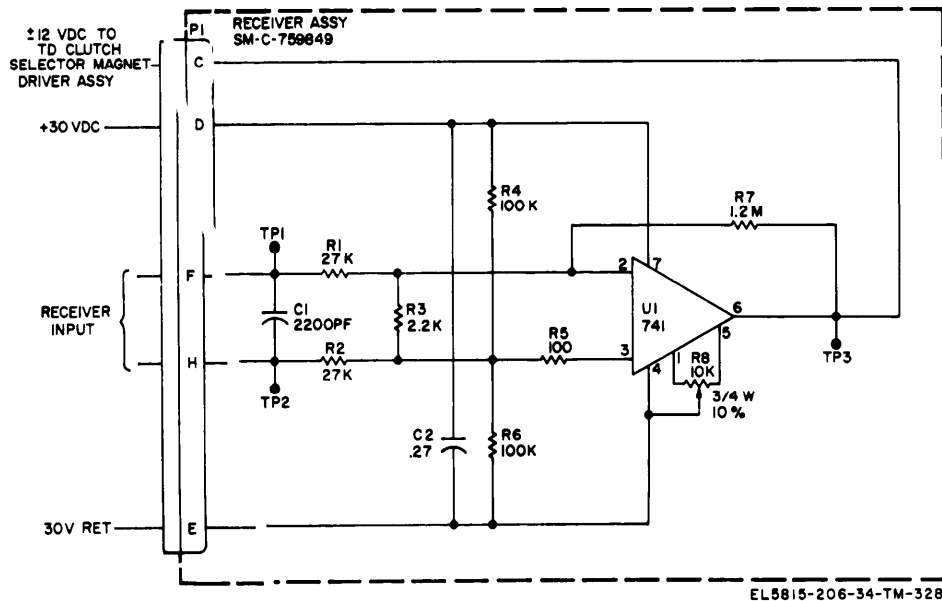

Figure 2-70. Receiver module, simplified schematic diagram, TT-698(\*)/TG.
(1) *Receiver module* (fig. 2-70). The receiver module accepts the ±6 volt MARK/SPACE signals from the receive line. The input impedance of the